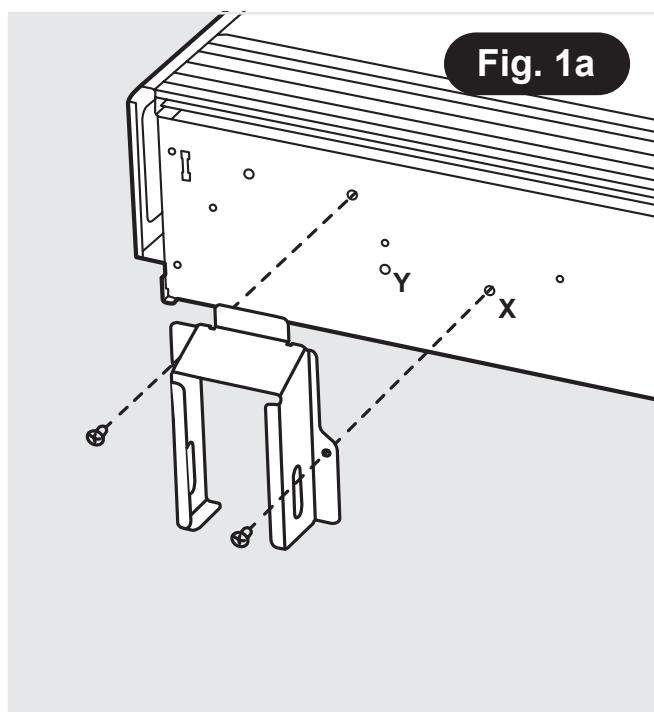

Fig. 1a
2. Feet are fitted in the default position (**X** position) and can be moved to the outside position (**Y** position) if necessary. (Fig. 1a and Fig. 1b). NB: Repositioning of feet may be required depending on floor arrangement (e.g. replacing an installation).